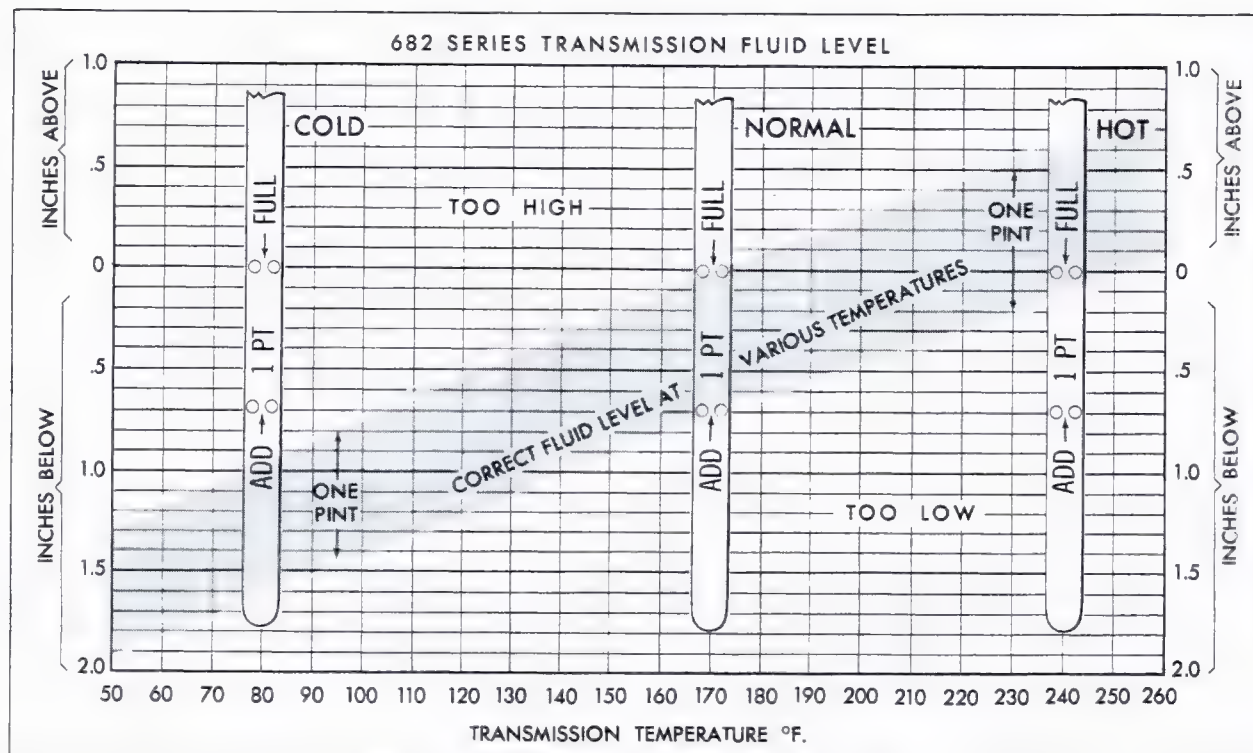

Fig. 7-33 Transmission Oil Level (Except 693)
The bottom pan should be drained every 24,000 miles or 2 years, whichever occurs first, and fresh fluid added to obtain the proper level on the dipstick, Fig. 7-33. For cars subjected to heavy city traffic during hot weather, or in commercial use, when the engine is regularly idled for prolonged periods, the bottom pan should be drained every 12,000 miles.
Fluid level should be checked at every engine oil change. The full "F" and "ADD" dimple marks on the transmission dipstick indicate one pint difference. Correct fluid level is determined at normal operating temperature (170°F.). Careful attention to transmission oil temperature is necessary, as proper fluid level at low operating temperatures will be below the "ADD" mark on the dipstick, Fig. 7-33, and proper fluid level at higher operating temperatures will rise above the full "F" mark. Fluid level must always be checked with car on level surface, and with engine running to make certain converter is full. To determine proper fluid level, proceed as follows:
13. Reduce engine speed to slow idle and check fluid level. Add fluid, if necessary, to bring to proper level, Fig. 7-33.
4. Check fluid level and add additional fluid, if necessary, to bring to proper level, Fig. 7-33.